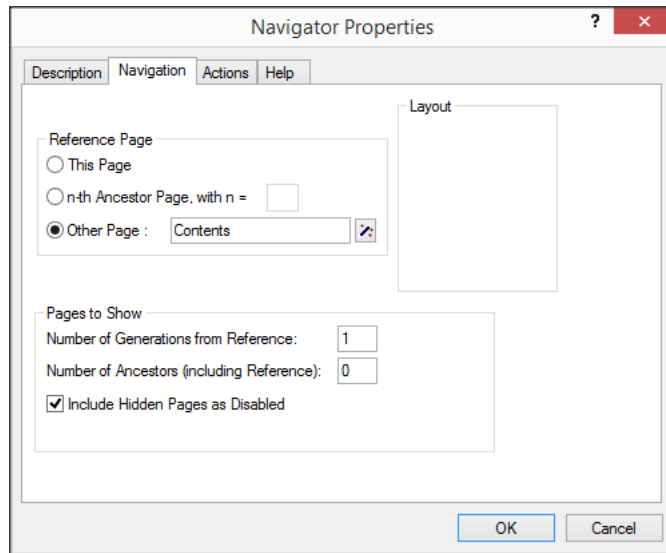

Figure 13.10: The completed **Navigation** tab of the **Menu Properties** dialog box
- ▶ select 'Other Page' as the option within 'Reference Page' (see also Figure 13.10),